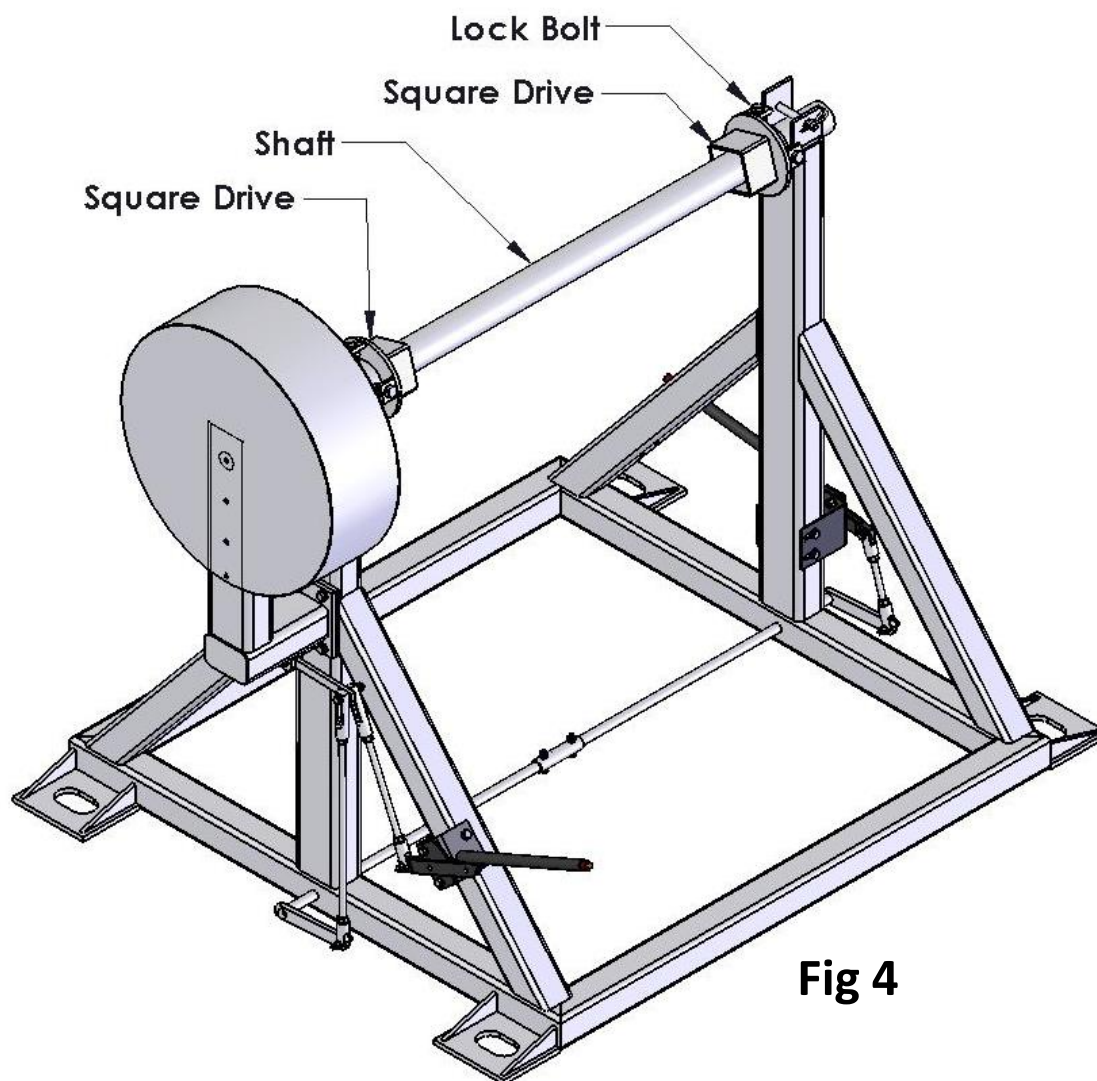

Fig 4
1. Release brake as shown in Figure 4.
2. As pull commences, apply brake as necessary according to direction indicated above in Figure 4.